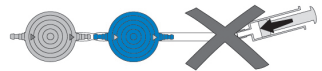

Fig. 22: Avoidance of pressurisation
- ▶ Pressurisation with a single-use syringe should be avoided both at the proximal and the distal end (Fig. 22).